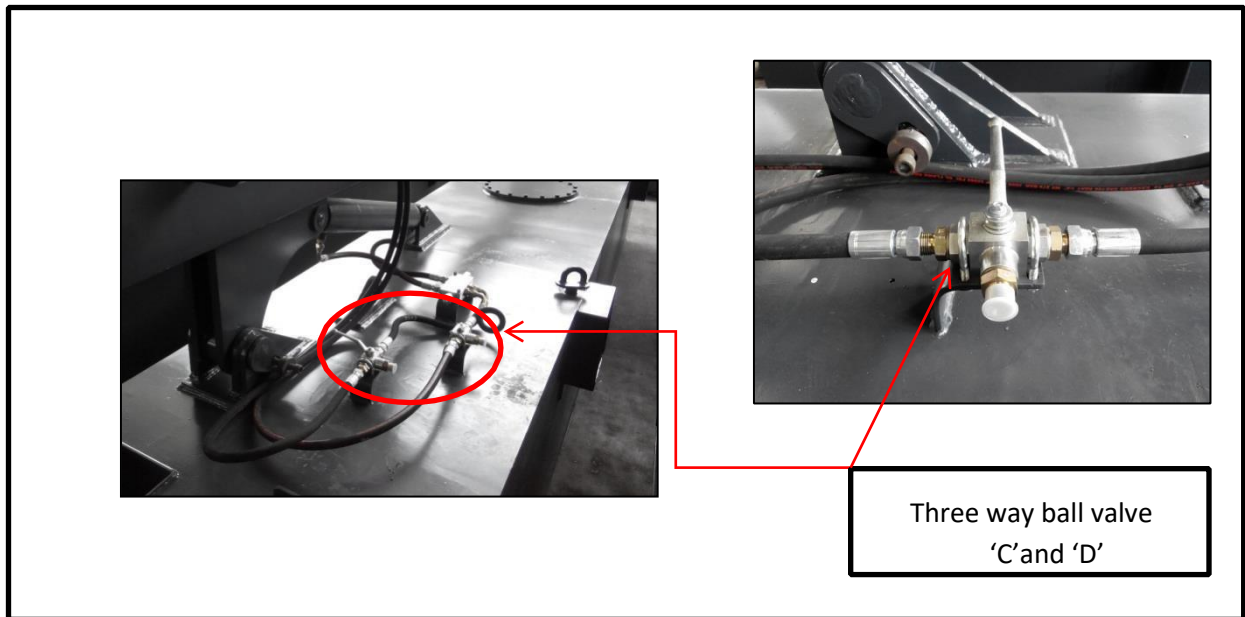

Figure 3.7: Position of the three-way ball valves to control the spud
- 2) Two pieces of 1/2" three-way ball valves at the top, been placed on the top of the side pontoons to activate the spud hydraulic cylinder or spud drive motor. Extend the spud cylinder by switching the ball valves. By using the machine's traveling lever inside the cabin, control the spud and adjust it to the standing position. Refer to Figure 3.7.